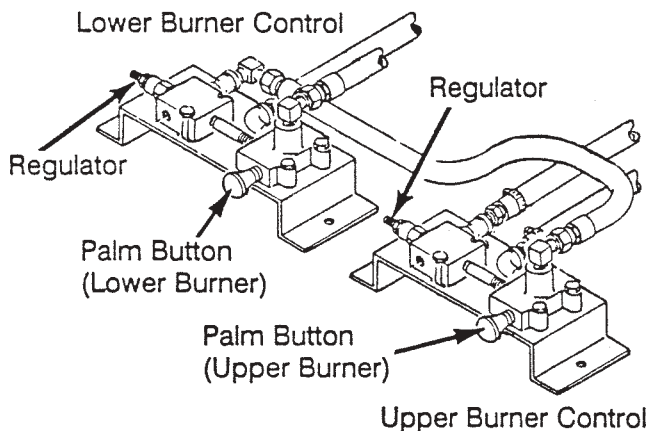

Figure 8. Burner Flow Control Regulator - Initial Adjustment
4. Check initial settings of burner regulators. Approximately 1/4-inch of adjustment screw thread should be exposed. See Figure 8.